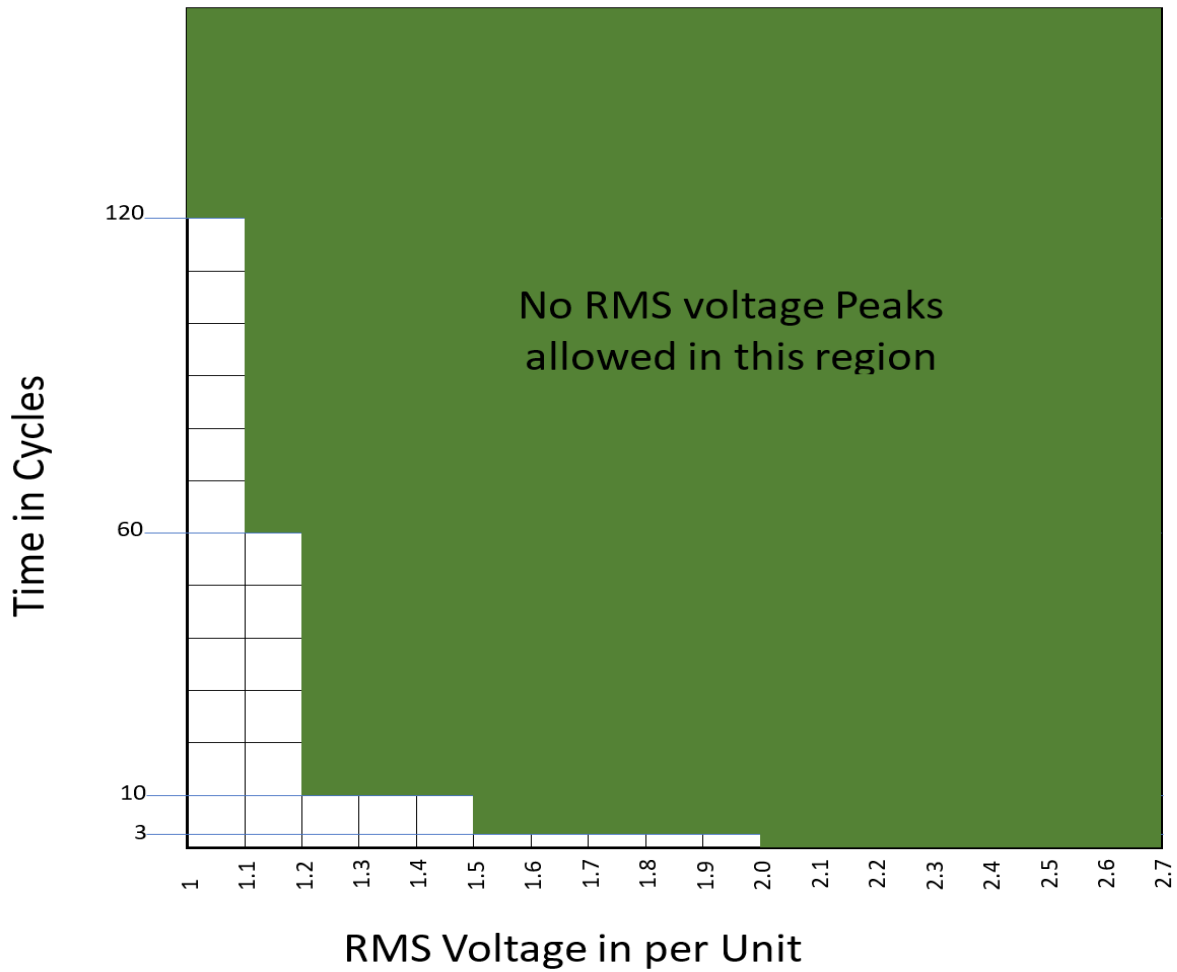

Figure 1: RMS Voltage Limit
Upon de-energization by a three-phase disconnect device it is possible for an inverter-based Facility device to produce a short duration overvoltage condition. The maximum limits for the allowed overvoltage are described below. Refer to Figure 1 for conditions (B) through (D).